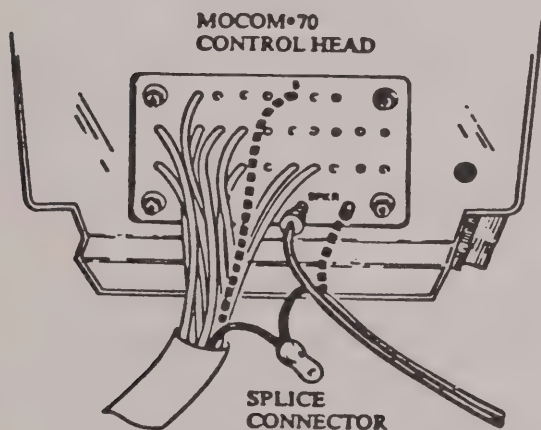

Figure 1.
Step 3. Twist the two leads together and crimp on the closed end splice connector (part number 29-812980) supplied with the installation kit. See Figure 1.